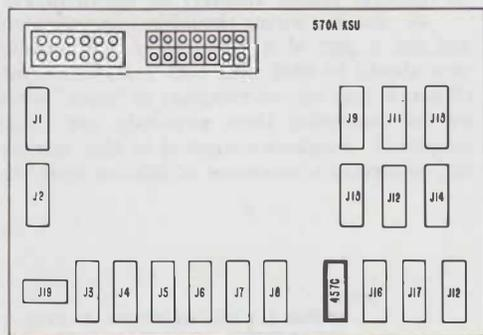

Fig. 42—Location of 457C KTU, Paging Amplifier
- (1) Install 457C KTU in J15. See Fig. 42 for KTU location.
- (2) If background music is provided, install the 33A voice coupler according to 4.38(b).
- (3) Connect paging speakers as shown in Fig.